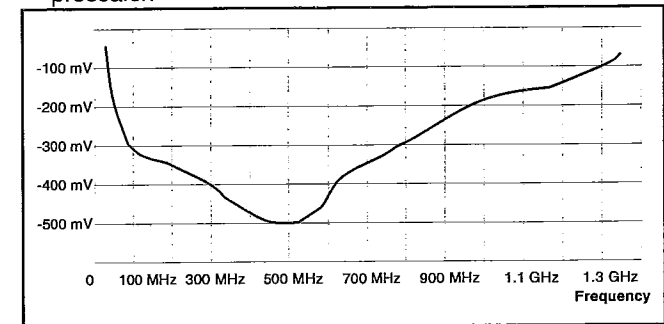

Fig. 5-23 Typical Frequency Curve PM9621.
- Figure 5-23 shows the typical frequency curve of the prescaler.